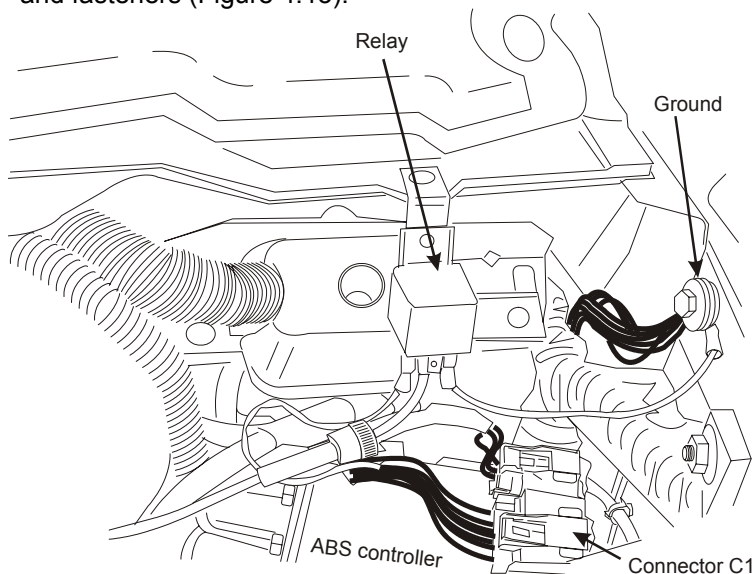

Figure 4.13
- ☐ Remove the plastic fastener above the firewall on the driver's side of the engine. Mount the relay using the supplied bracket and fasteners (Figure 4.13).
- ☐ Connect the relay ground (Pin 85) to the OEM ground point on the driver's side fender (Figure 4.13).
- ☐ Locate the green with a pink stripe wire at pin 4 (top row, fourth from the front) of C1 on the "Anti-lock Brake Controller" (Figure 4.13).